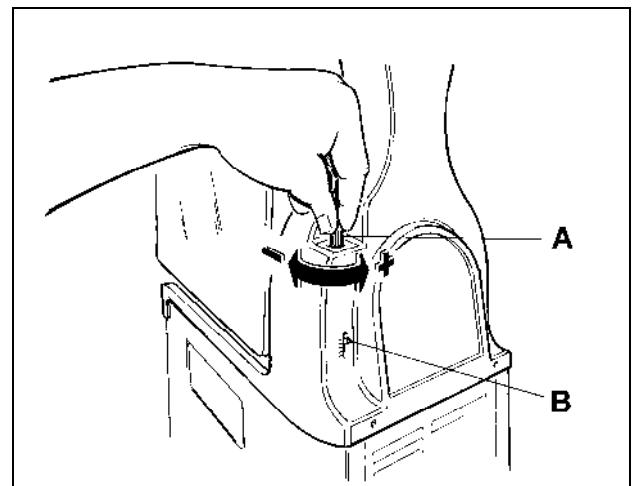

Fig. 13
b) **Adjusting the consistency:** to alter the consistency of the product, turn the screws located on the back of the machine in the following way: clockwise to make the product less dense, counter clockwise to make the product denser (see figure 13).